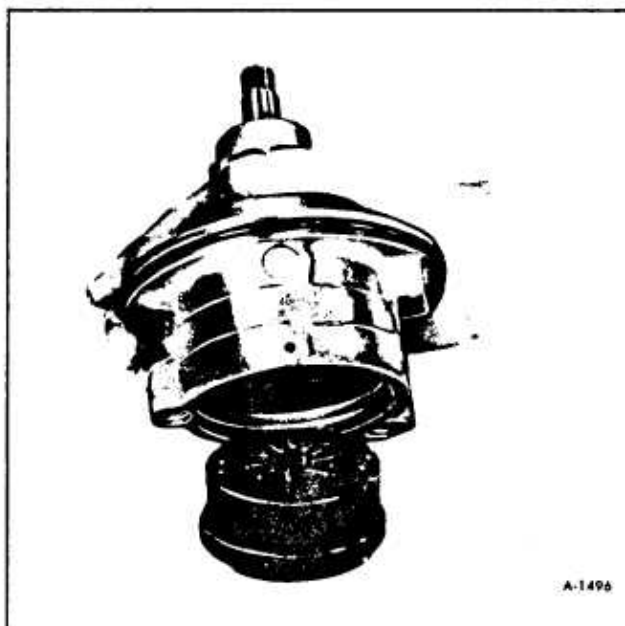

Figure 14-Removal of Shaft, Pressure Plate, Pump Ring, Vanes and Rotor
10. Remove pressure plate, shaft, pump ring, vanes and rotor. (figure 14).